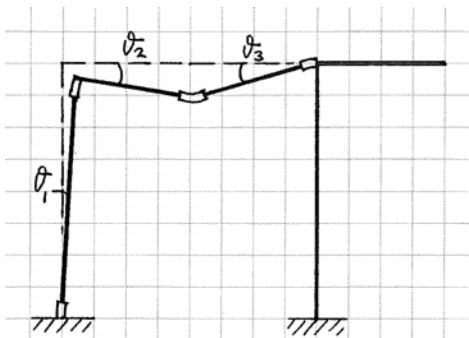

Figure 4. Mechanism for including M-N interaction
– Use Fig. 4 to determine the smallest upper-bound for  $q$ .